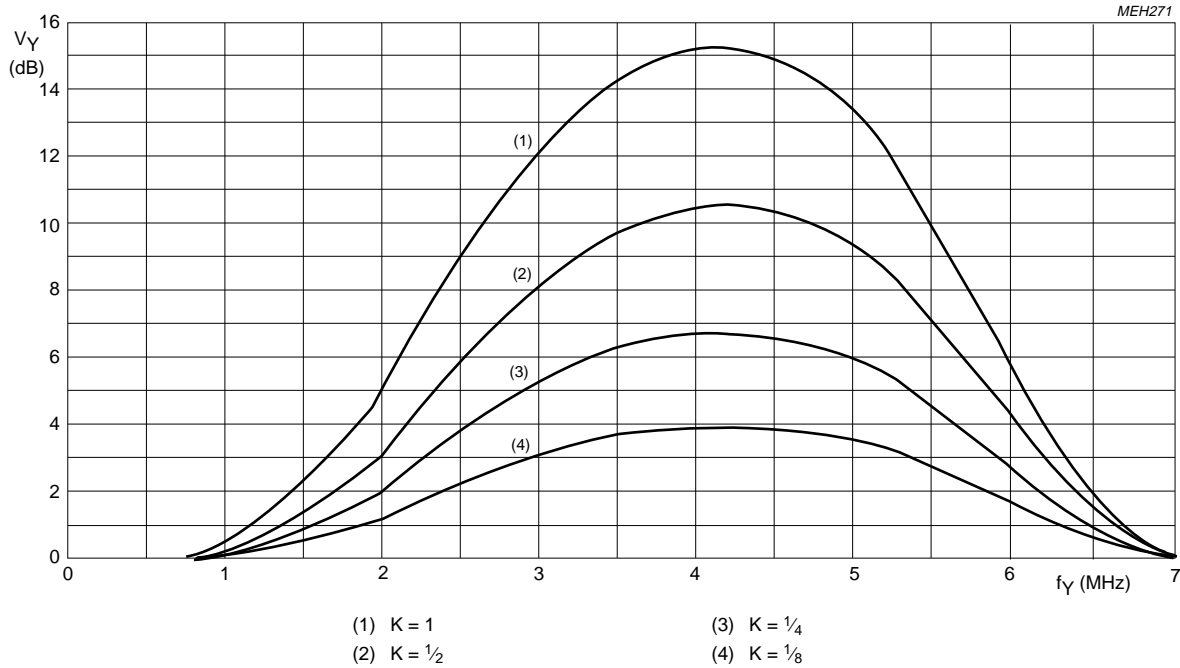

Fig.5 Peaking frequency response with I2C-bus control bits BP1 = 0; BP0 = 0 and BFB = 0.
YUV-bus timing (pins 4 to 11 and 14 to 21) (see Fig.5)
MC timing (pin 24) (see Fig.5)
1. YUV-bus data is read at MC = HIGH (pin 24) clocked with LLC (see Fig.5); data is read only with every second rising edge of LLC when CREF = 1/2 LLC on pin 24.